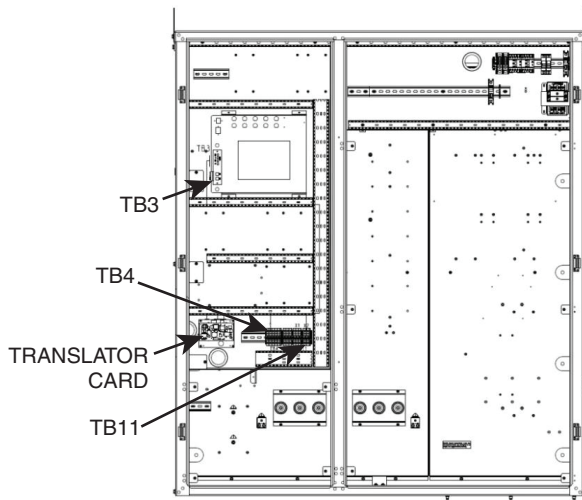
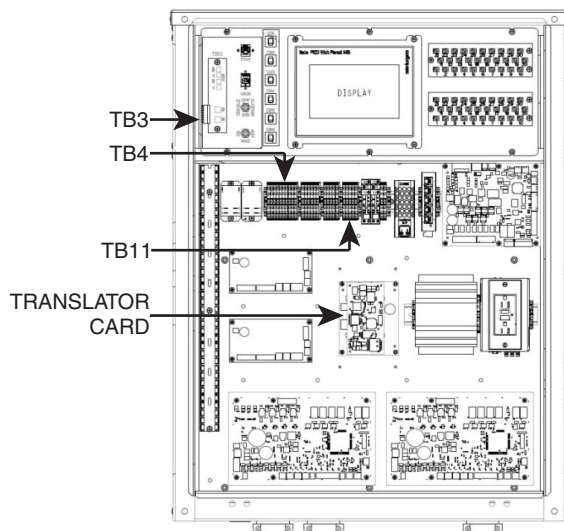
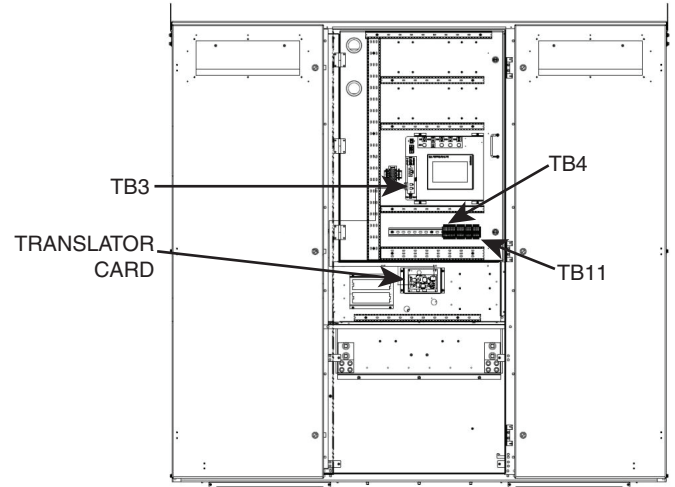

Fig. 3 — Translator Module Installation Location for 30XVA140-325
Fig. 4 — Translator Module Installation Location for 30XVB140-325
Fig. 5 — Translator Module Installation Location for 30XV350-500
4. Install the CCN Carrier Translator module in the location shown in Fig. 3, 4 or 5 by using screws (item #2). For unit sizes 350-500 tons (Fig. 5) a bracket (item #5) must be installed first using screws (item #3) and then mounting CCN Carrier Translator module to the bracket.
10. Connect the other end of the cable which has a 3-position plug and is labeled TB3 into the CCN connection on TB3 located as shown in Fig. 3 for 30XVA 140-325, Fig. 4 for 30XVB 140-325 and Fig. 5 for 30XVA/XVB 350-500.